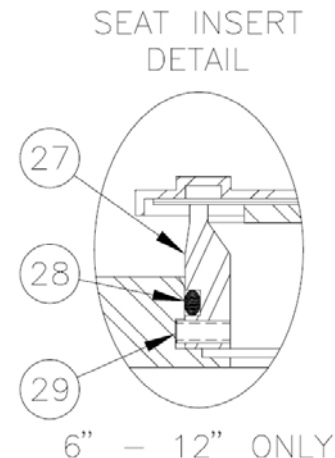

Figure 6 – Seat Insert Detail
1. The insert is retained in the casting by [3] stainless steel socket head set screws threaded radially through the insert. See Figure 6.